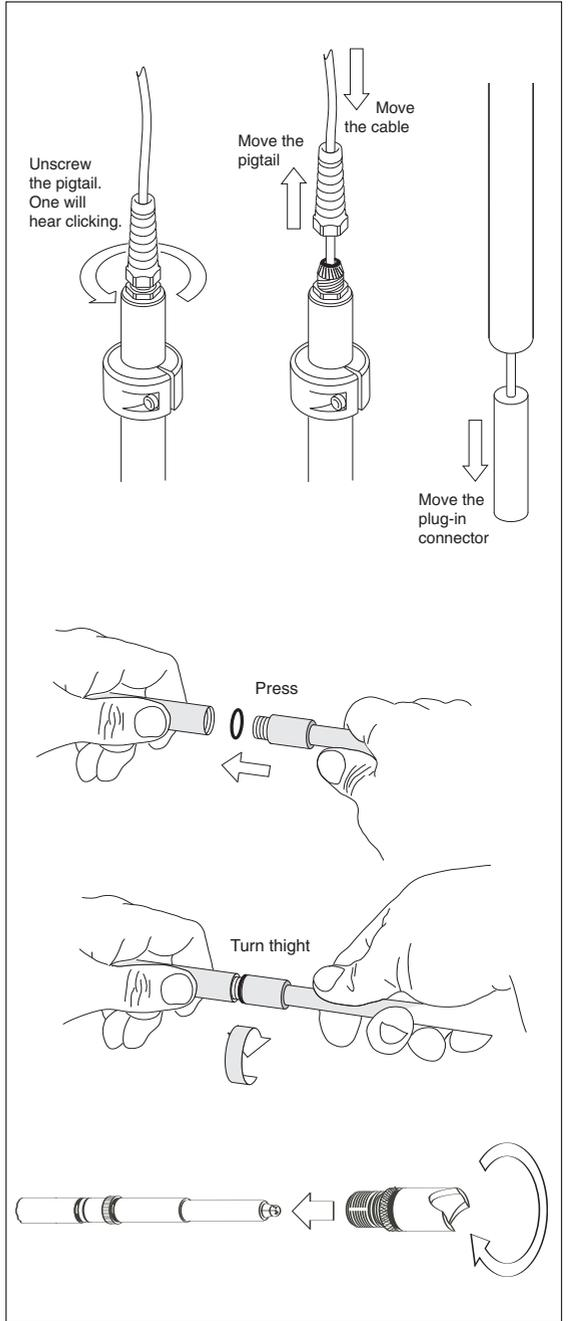

figure 3.4 Mounting the electrode in the PR20 fitting
1. Push the cage onto the electrode (see fig. 3-4.)